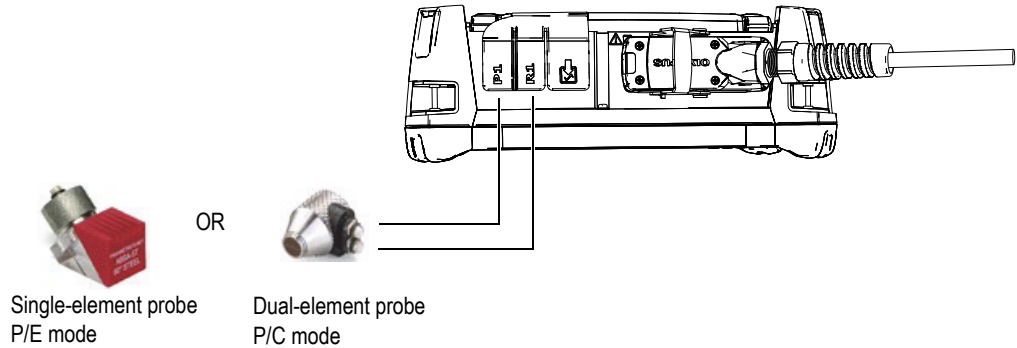

Figure 1-7 UT probe connection
The OmniScan MXU software can combine both the phased array (PA) and conventional ultrasound (UT) operation modes. Depending on the instrument configuration, you can use UT and/or PA probes. Connect UT probes to the UT connectors, as shown in Figure 1-7 on page 13. Use a dual element probe for the pitch-catch (P/C) mode.